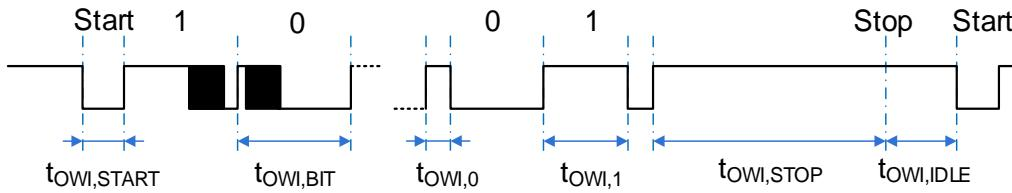
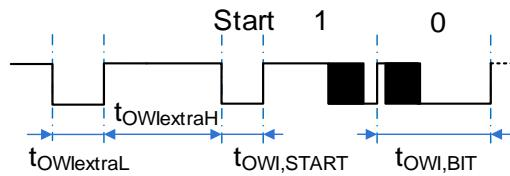

Figure 14. OWI Timing Diagram
Figure 15. OWI Extra (Activation) Pulse for Concurrent OWI and Analog Output Configuration
- **Valid Data:** Data is transmitted in bytes (8 bits) starting with the most significant bit (MSB). Transmitted bits are recognized after a start condition at every transition from low to high at the OWI line. The value of the transmitted bit depends on the duty ratio between the high phase and high/low period (bit period, $t_{OWI,BIT}$ in Figure 14). A duty ratio greater than 1/8 and less than 3/8 is detected as 0; a duty ratio greater than 5/8 and less than 7/8 is detected as 1. The bit period of consecutive bits must not increase to more than 1.5 times the previous bit period or decrease to less than half of the previous bit period because a stop condition is detected in this case.
OWI protocol timing and parameters are specified in Figure 14, Figure 15, and Table 23.
- **Continuous OWI and Analog Output:** The configuration *owi_off* = 0, *cont_ANAoutn* = 0, and *owi_su_case* = 1 results in AOUT providing analog output levels as soon as they are available after power-up (in Cyclic Mode). Concurrently, the OWI listens to the AOUT¹ pin in order to check for valid OWI commands. The OWI still needs to be enabled by means of the *Startup OWI* command. The physical protocol in this configuration requires an extra pulse (see Figure 15) prior the *Startup OWI* command. After the release of the extra OWI initialization pulse, the analog output is switched off² and AOUT becomes the OWI I/O pin until the OWI startup window (according to *owi_su_length*) has elapsed.